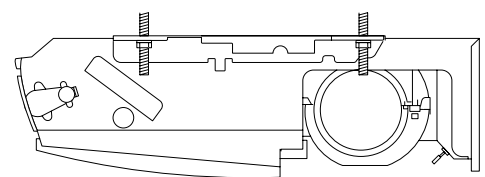

Fig. 3-123
- c) Tighten the 2 hexagonal nuts on each suspension bolt to suspend the indoor unit as shown in Fig. 3-123.